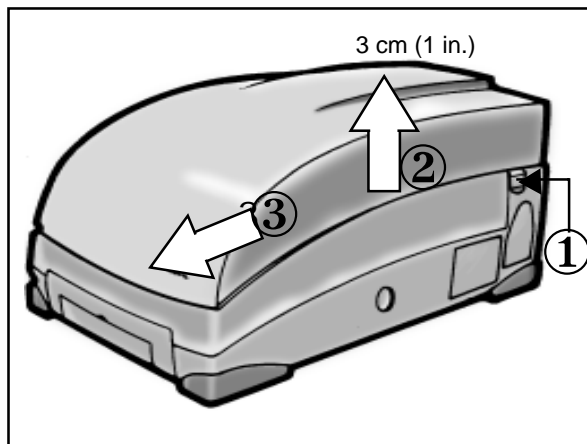

Fig. 2 - Removing the cover
1. Put the cover on the splicer when it is not in operation (fig. 2 pg. 4).